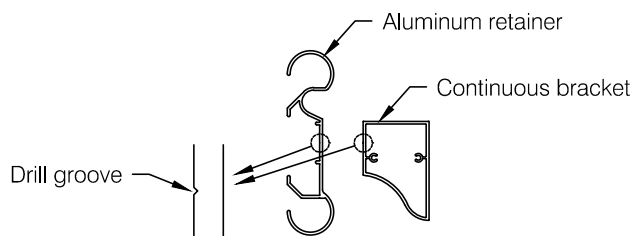

fig 3
**Note:** Use V-groove in retainer and bracket extrusions to locate centerline for drilling. The grooves are located in each extrusion to ensure proper vertical alignment between retainer and bracket, see **fig 3**.